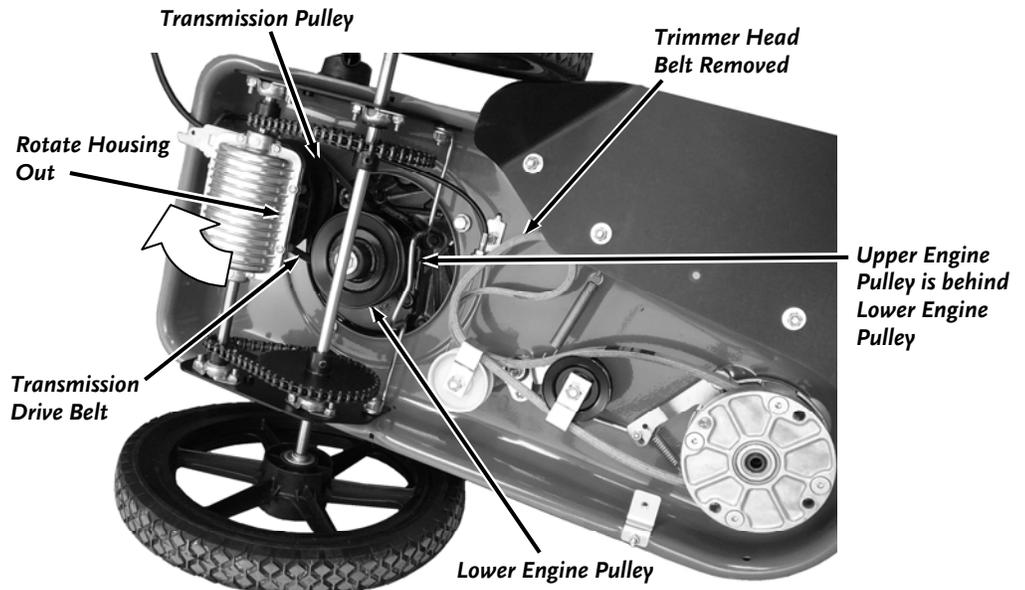

Figure 35
4. Grasp the Transmission Housing and rotate it out to loosen the Drive Belt (**Figure 35**). Be careful not to overextend the spring. You can now remove the Belt from the Transmission Pulley and upper Engine Pulley. The Transmission Housing is spring loaded so it will return to its original position when released.
Before replacing the brake arm, check that the mounting of the belt is on the correct side of the idler pulleys (see **Figure 35** on page 23), and not frayed, worn or stretched. Also, see “adjusting the trimmer head belt tension through the trimmer control cable” on page 28.